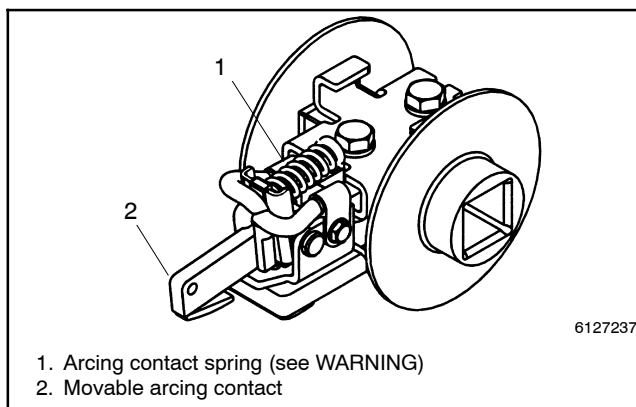

Figure 8-9 Movable Contact Assembly
2. Remove the movable arcing contact spring. Use a screwdriver (or spring compressor) to carefully release the movable arcing contact spring from the tab on the shaft clamp. *See the note above!* Then remove the spring and spring retainer. See Figure 8-9.